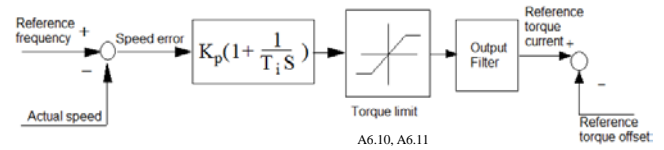

Fig.6-13 Speed regulator
1.The structure of speed regulator (ASR) is shown in Fig.6-13.In the figure,  $K_p$  is proportional gain P.  $T_i$  is integral time I.